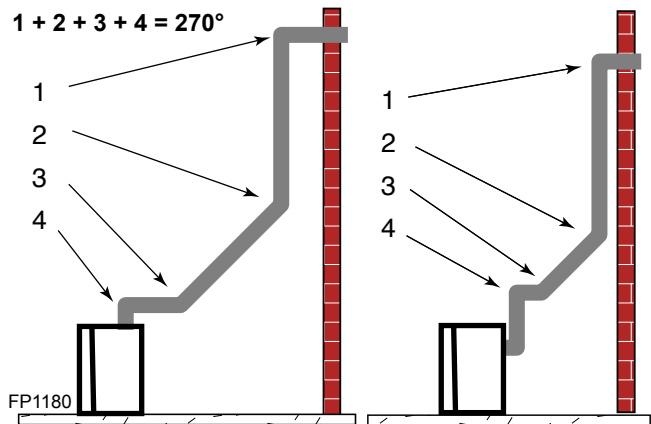

Figure 31 -
- The maximum number of 45° elbows permitted per installation is six (6). These elbows can be installed in either the vertical or horizontal run.
- The maximum number of elbow degrees in a system is 270°. *Figure 31*